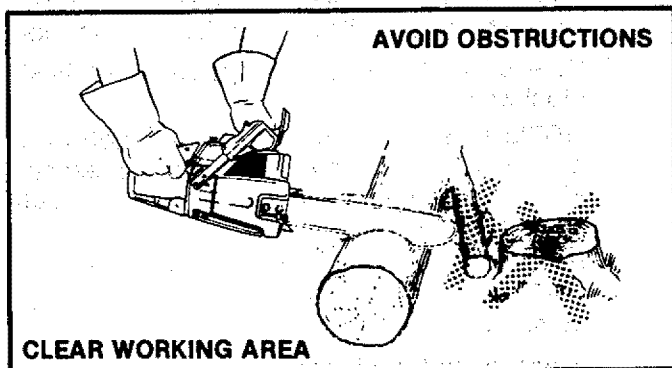

Figure 16
- Keep the working area free from obstructions such as other trees, branches, rocks, fences, stumps, etc. Figure 16. Eliminate or avoid any obstruction that your saw chain could hit while you are cutting through a particular log or branch.